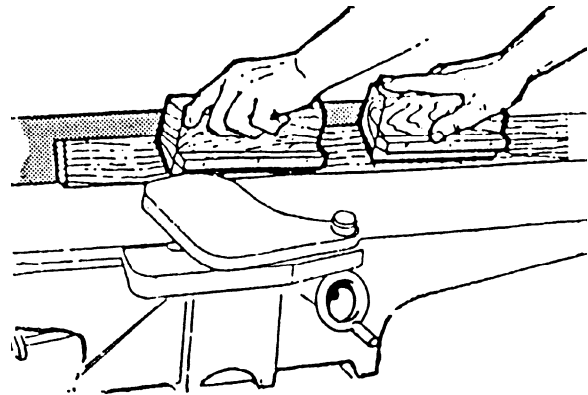

Figure 40
*For wood less than 3 inches wide* – use beveled push blocks and apply pressure toward the fence. Keep fingers near top of push block (Figure 40).